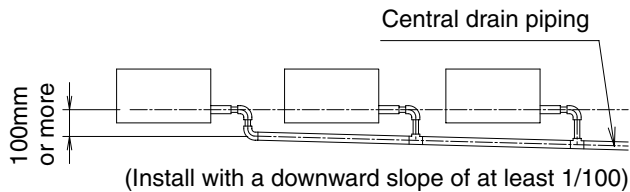

Fig. 7
(1) Install the drain piping.
- Keep the drain pipe short and sloping downwards at a gradient of at least 1/100 to prevent air pockets from forming. (Refer to Fig. 7)
- If you are using central drain piping, follow the procedure outlined in the figure 7.